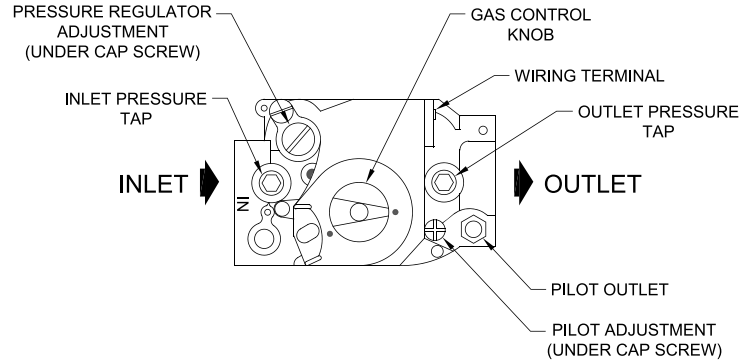

Figure 13: Top View of Honeywell Gas Valves
9. Loosen or remove Inlet Pressure Tap Plug in Combination Gas Valve and when purging is complete, tighten or replace plug. (See Figure 13).
4. With boiler off, water Manometer or water column gauge should be connected to a shut-off valve installed in the 1/8" outlet pressure tap in the gas valve (see Figure 13). By installing gas valve upstream of manometer, gas pressure can be introduced gradually - without shut-off valve; surge of pressure when boiler is turned on, could blow liquid out of manometer. Replace plug in gas valve when rate check is finished.